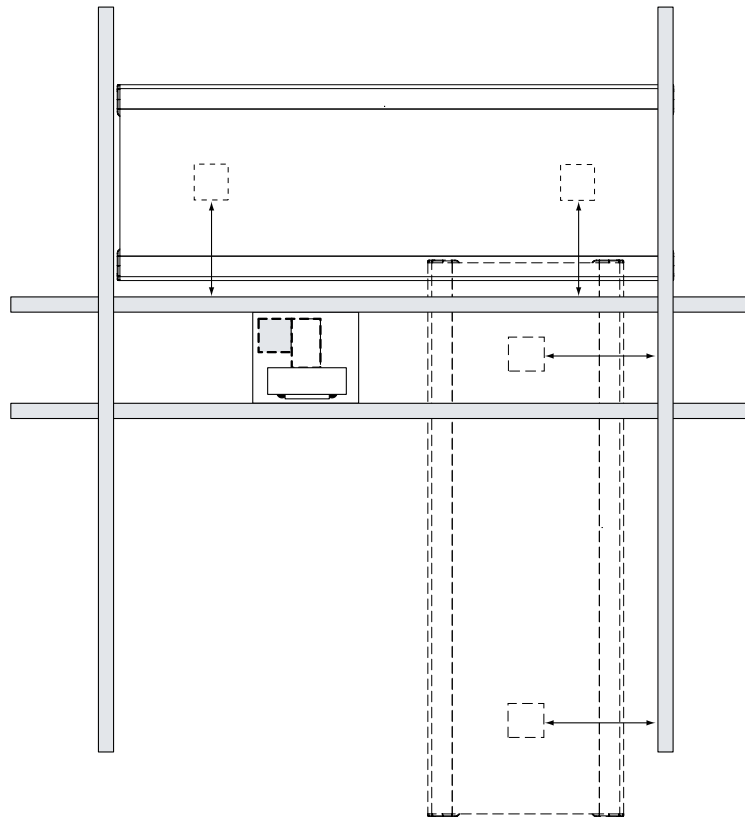

Fig. 5-38
1. Drill the holes using the drill template see Fig. 5-38 , 12 mm diameter, for the expanders. The hole depth for the enclosed expanders shall be 45 mm.